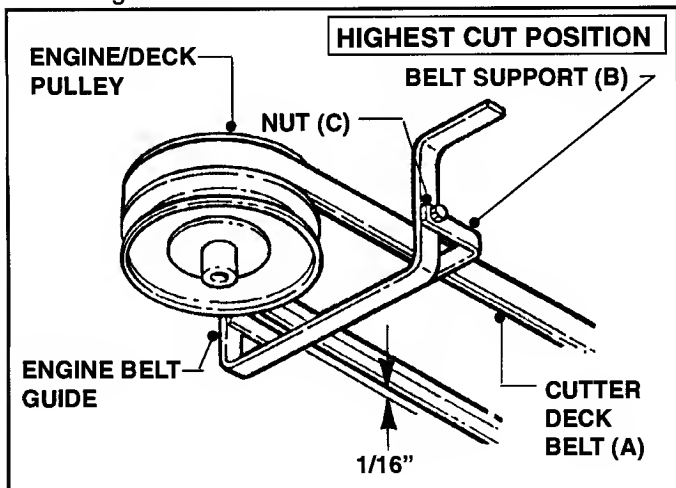

FIGURE 5.8
- B.** Check clearance between Cutter Deck Belt (A) and Belt Support (B), if the clearance is greater or less than 1/16" adjust Belt Support (B). Belt Support (B) is positioned beneath Cutter Deck Belt (A). See Figure 5.8.
- C.** To adjust Belt Support (B), loosen both Nuts (C), then move Belt Support (B) up or down until there is 1/16" clearance between Cutter Deck Belt (A) and Belt Support (B). Refer to Figure 5.8.